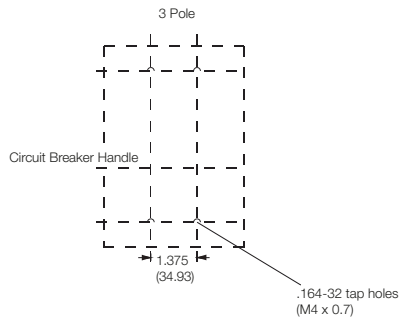
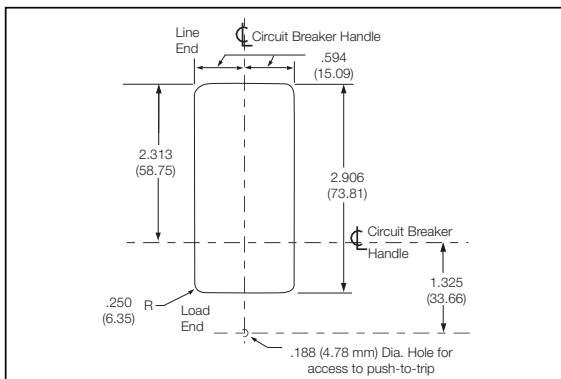

Figure 2: circuit breaker mounting bolt drilling plans
Figure 3: circuit breaker escutcheon dimensions
- a. For individual mounting panels, make sure that mounting panel is predrilled using bolt drilling plan (Figure 2). For panelboard mounting, only load end support mounting holes are required. For deadfront cover applications make sure panel cover is cut out to correct escutcheon dimensions (Figure 3).